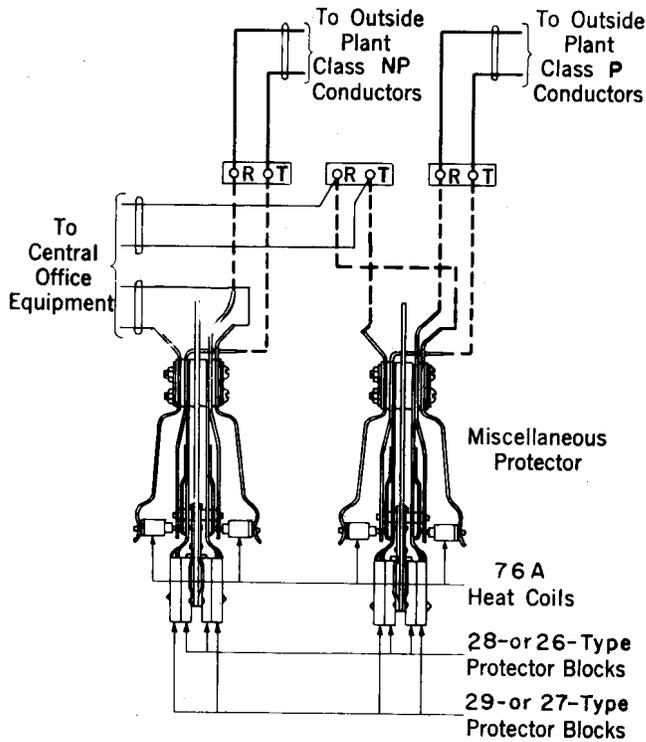
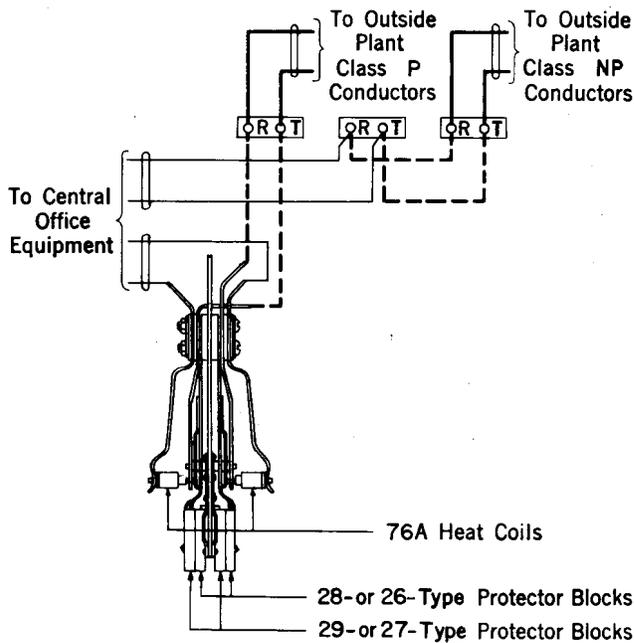

Fig. 14—Class P to Class NP Conductors—Looped—Having Auxiliary Line Circuit Connected to Class P Conductors
Fig. 15—Class P to Class NP Conductors—Looped—Having Auxiliary Line Circuit Connected to Class NP Conductors
6.23 Where it is necessary to connect through an auxiliary central office circuit, such as a long-line supervisory circuit, the conductors shall be connected and protection provided as shown in Fig. 14; this applies if the class P conductors are to be connected to the auxiliary circuit leads which terminate on a terminal strip. The protector permanently wired to the central office equipment should be equipped with dummy metal heat coils except where this might lead to accidentally omitting heat coils of adjacent class P conductors. If the class NP conductors are to be connected to the auxiliary circuit protector, connections are made as shown in Fig. 15.